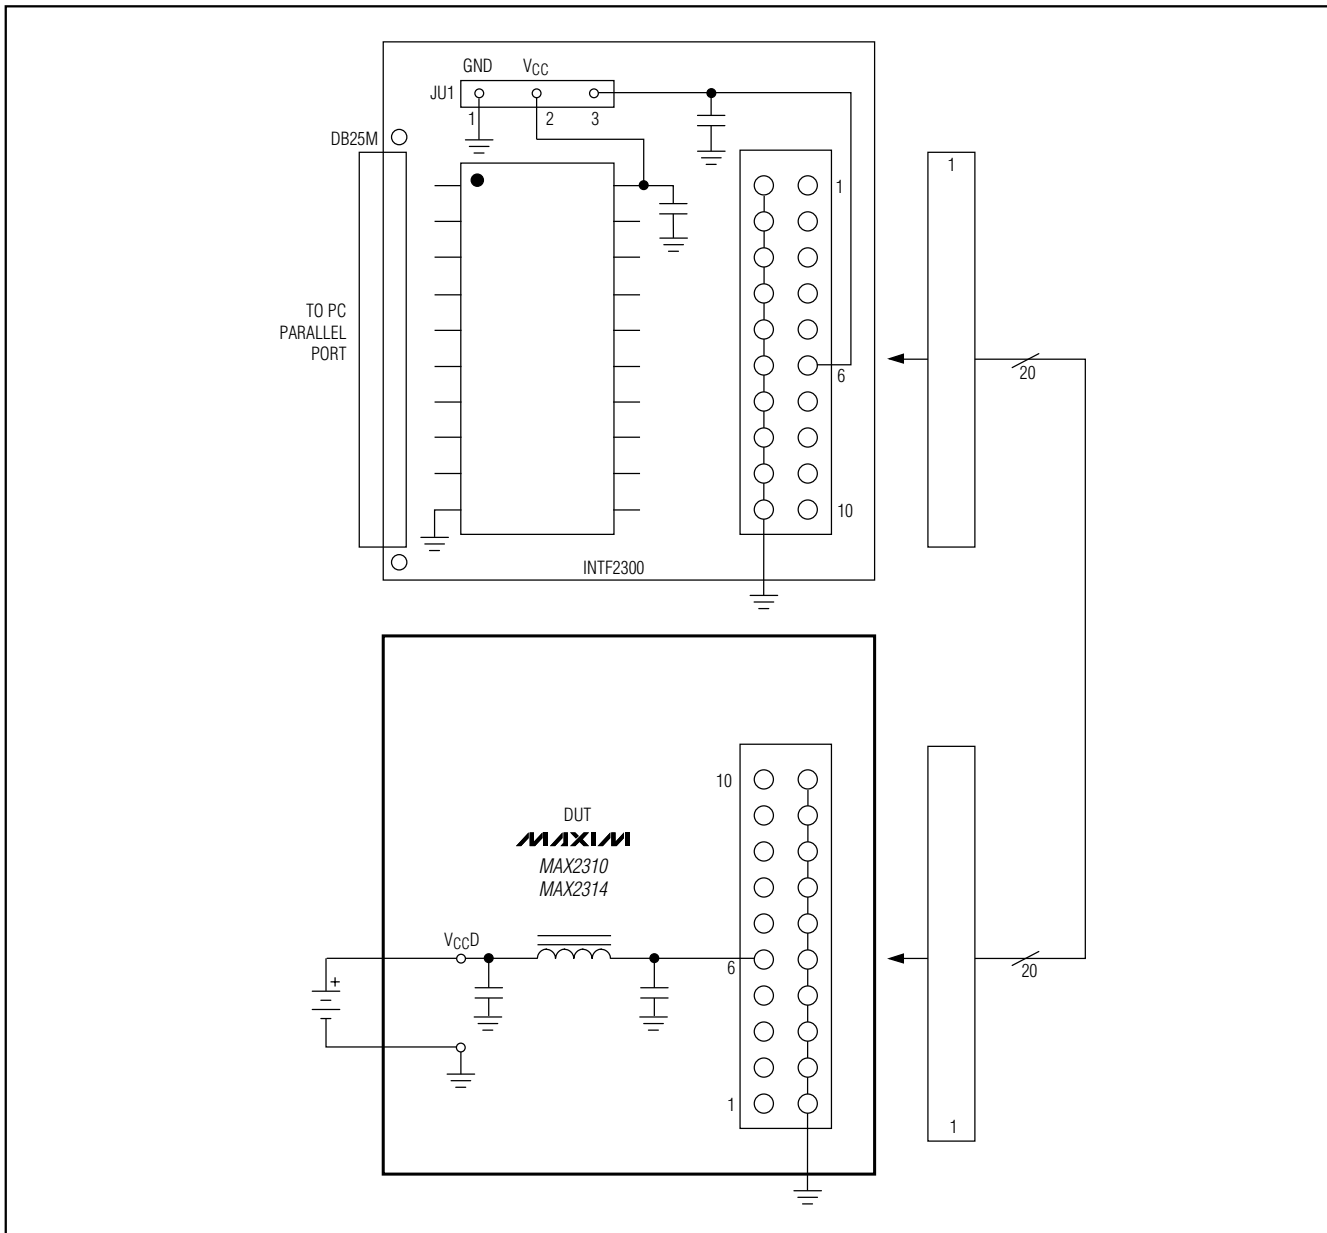

Figure 8. INTF2300 Interface Board
- 2) Connect the INTF2300 interface cable as shown in Figure 8. (Pin 1 of the interface cable corresponds to the red wire; pin 1 is designated in silk screen on each of the PC boards.)
also provides buffering and EMI filtering. The recommended operating supply voltage range is +2.7V to +3.6V. For operation of the MAX2310/MAX2314 above +3.6V, jumper JU1 may be removed and an external supply voltage of +3.6V may be applied between V_{CC} (pin 2) and GND (pin 1) (Figure 8).